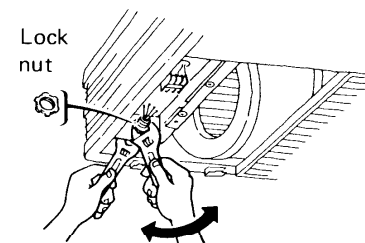

Fig. 16
- e) Secure the conduit connector to the electrical component box with a lock nut. Fig. 16